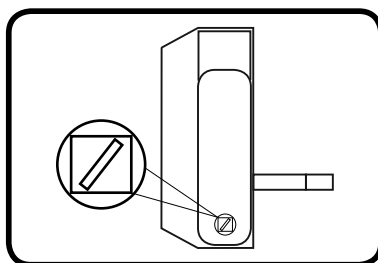

Fig.1
2. Re-fit the keypad and inside keypad so they are now on opposite sides, ensuring that the spindle is facing towards the opening edge of the lock body as per **fig.1** below.